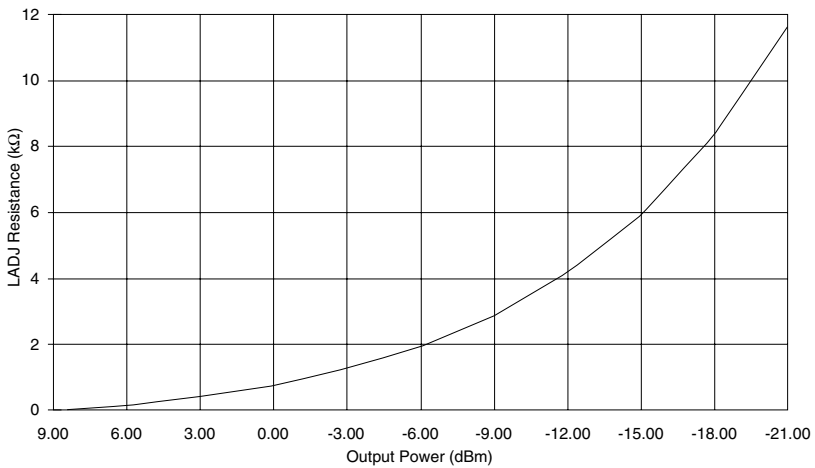

Figure 6: Output Power vs. LADJ Resistor
1. With a 50% duty cycle 2. With a 750 Ω resistor on LADJ 3. See Figure 6 on page 4 4. Characterized, but not tested
The Level Adjust (LADJ) line allows the transmitter's output power to be easily adjusted for range control, lower power consumption, or to meet legal requirements. This is done by placing a resistor between V_{CC} and LADJ. The value of the resistor determines the output power level. When LADJ is connected to V_{CC} , the output power and current consumption are at the maximum. Figure 6 on page 4 shows a graph of the output power vs. LADJ resistance.